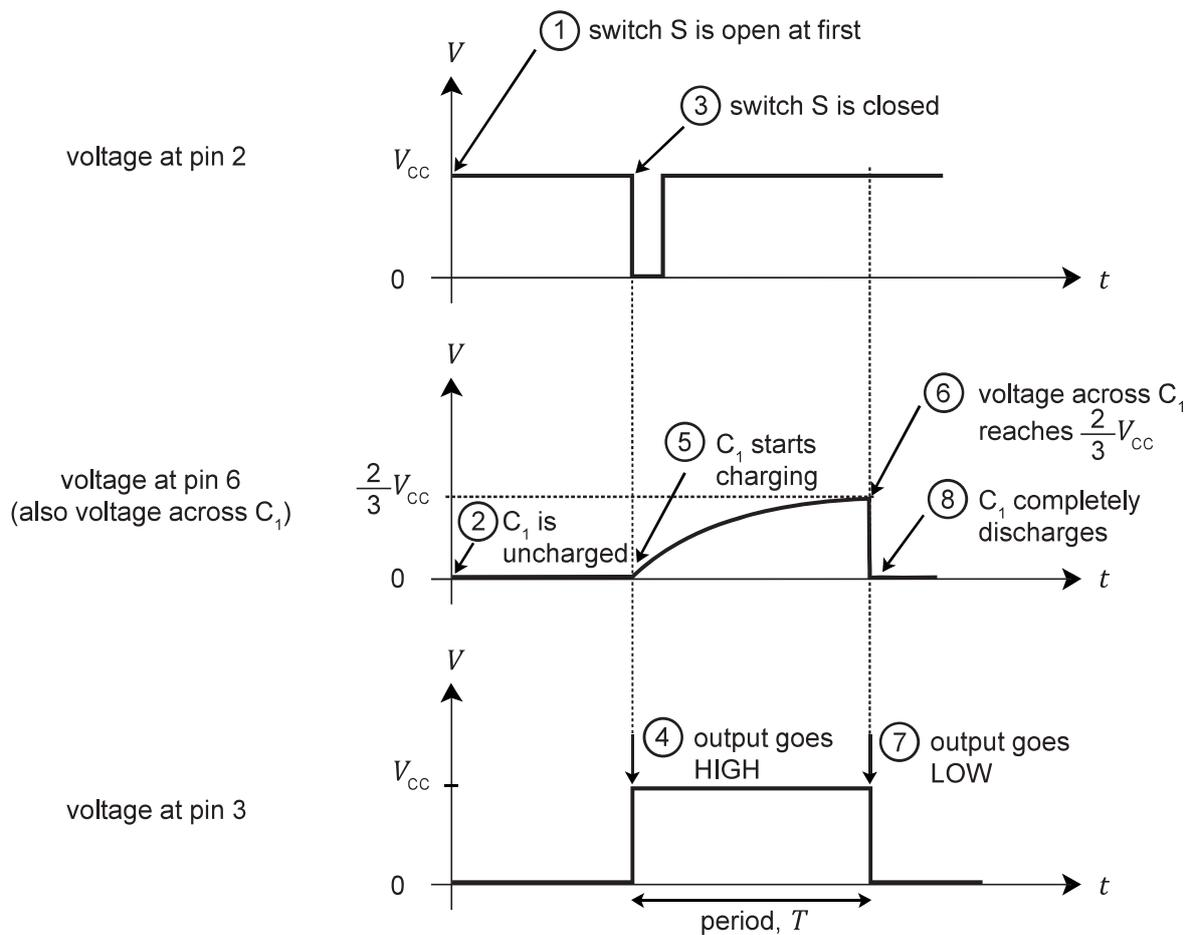

**Figure 14.18** 555 timer IC connected to operate as a monostable multivibrator
Figure 14.18 shows how the 555 timer IC can be connected to work as a monostable multivibrator. Note the following:
Refer to Figure 14.18. Given that  $R_1 = 5.6 \text{ k}\Omega$ ,  $R_2 = 10 \text{ k}\Omega$  and  $C_1 = 47 \text{ }\mu\text{F}$ , calculate the pulse width of the output when switch S is pushed.
A student plans to use the monostable multivibrator circuit in Figure 14.18 to provide a single pulse of 45 s. Determine the values of  $R_1$  and  $C_1$  that should be used.
- A student plans to use the monostable multivibrator circuit in Figure 14.18 to provide a single pulse with a width of 3.0 s. Determine the values of  $R_1$  and  $C_1$  that should be used.